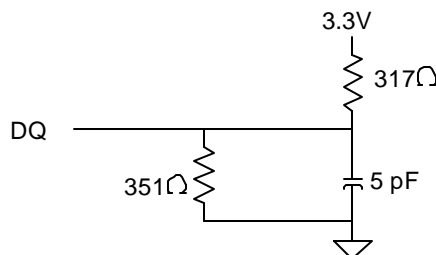

Fig.2 OUTPUT LOAD EQUIVALENT
6. Output loading is specified with $C_L=5\text{ pF}$ as in Fig.2.